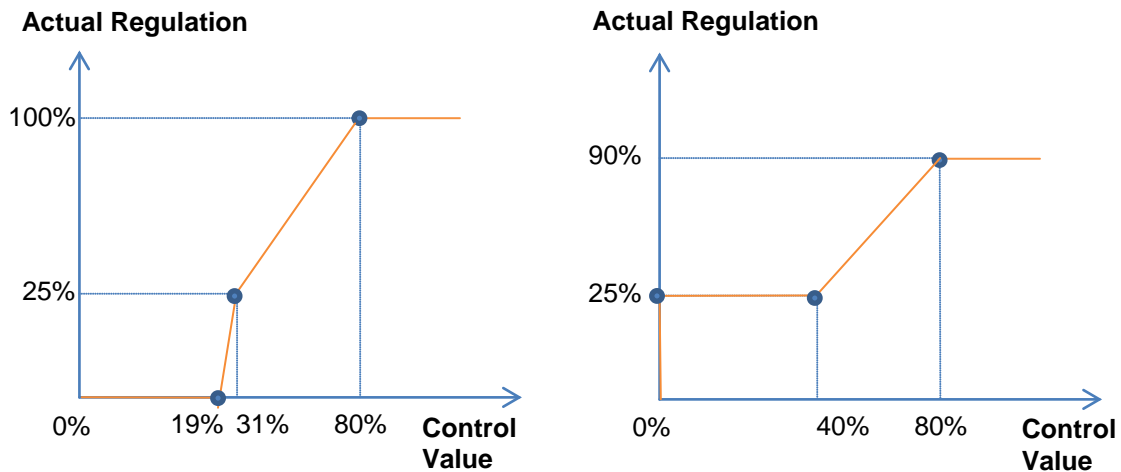
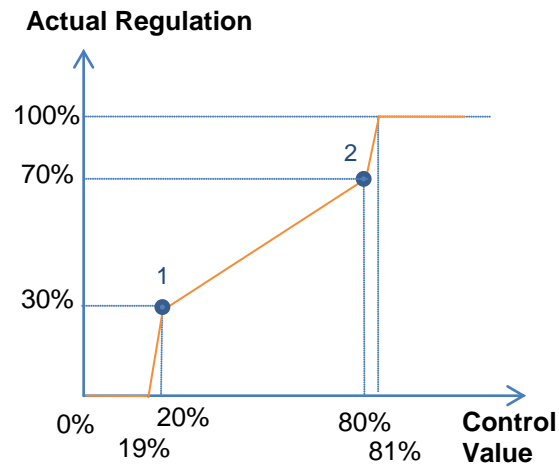

Figure 11. Custom Control Curves.
Figure 12. Values Out of Range
In case the first and last points do not correspond (respectively) to values 0% and 100%, the characteristic curve will be defined as follows (see Figure 11 and Figure 12):
- For **control values lower than that of the first point**, the actual regulation value will be 0%. For example, in Figure 12 all control values under 20% imply a regulation value of 0%.
- For **control values greater than that of the last point**, the actual regulation value will be 100%. For example, in Figure 12 all control values over 80% imply a regulation value of 100%.